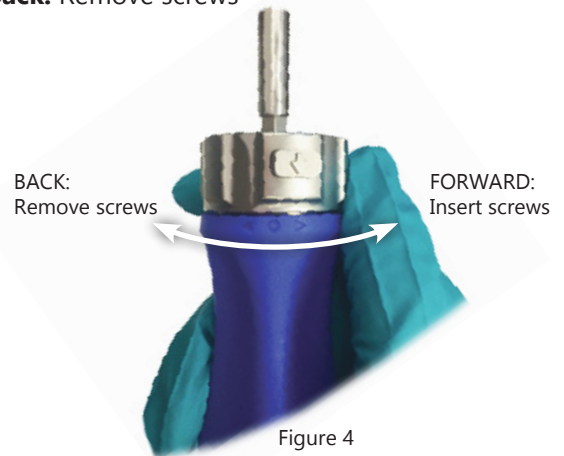

Figure 4
- 4 Set drive mode (Fig. 4) for the ratcheting handle: